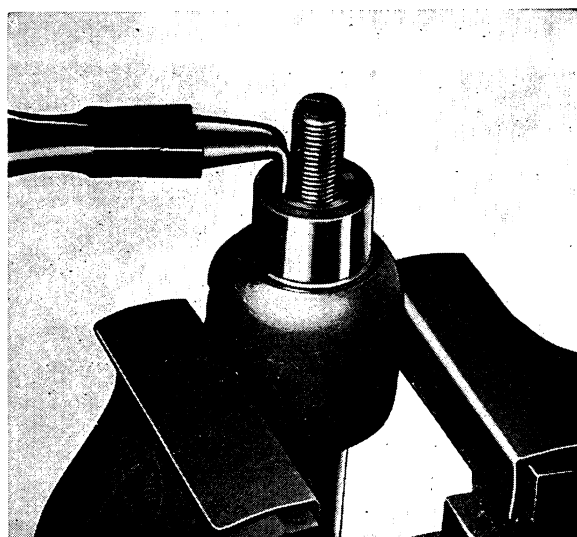

Fig. 6-38 Removing adjusting screw
4. Carefully tap on the steering cam shaft (10) so that the lower bearing outer race releases from the housing. Take out the shaft (10) with bolt and bearing.
5. Release the locknut (3) and unscrew the adjusting bolt (2) from the cover. The adjusting bolt can be removed from the pitman arm shaft after the lock ring has been taken off, see Fig. 6-38.